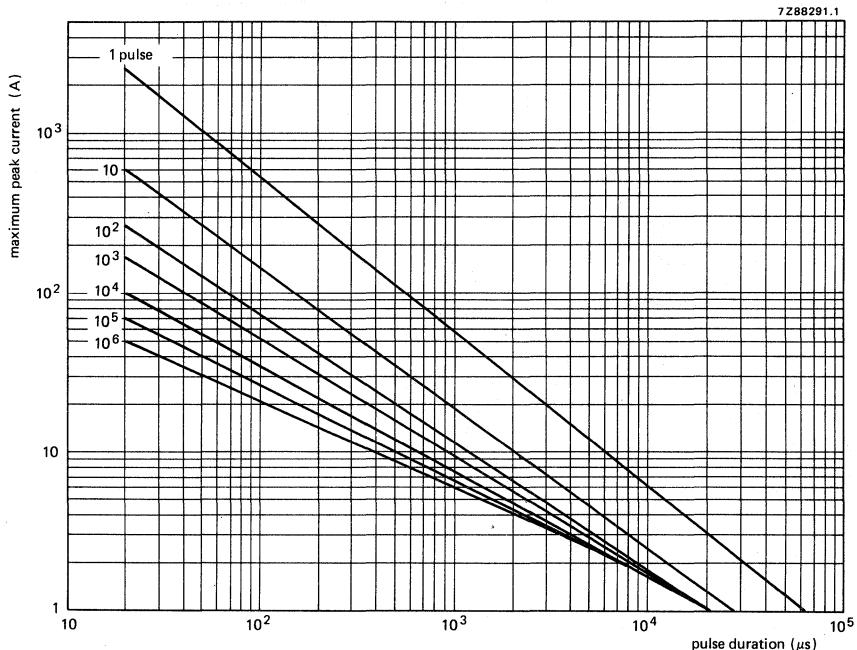

Fig. 3 Max. applicable transient current as a function of pulse duration.
5. A current impulse of 8/20 μ s (defined in IEC 60-2 section 6) is used as a standard for impulse current and clamping voltage ratings. The transient energy is given for one impulse applied during the life of the component. Figure 3 gives the derating for different numbers and longer duration of impulses. The shift of the varistor voltage does not exceed \pm 5%.